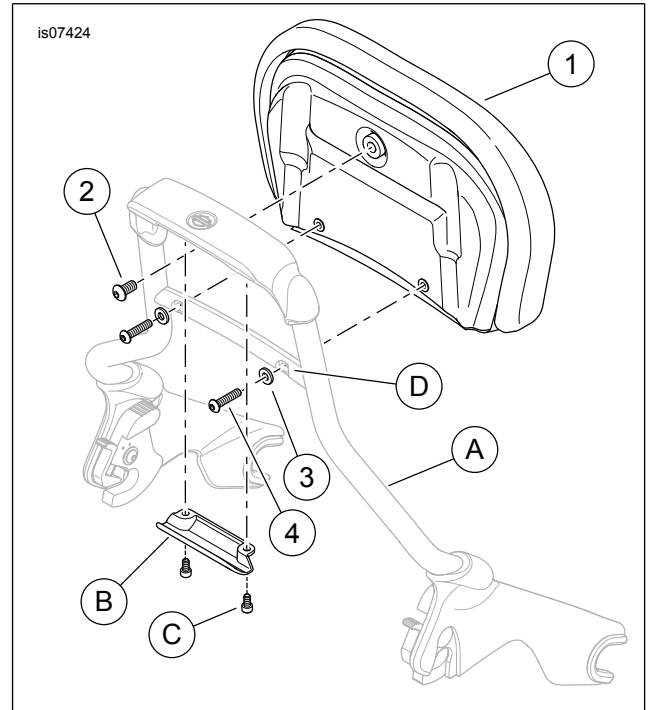

Figure 1. Service Parts, Air Wing Backrest Pad Kit
See Figure 1 and Table 1.
1. See Figure 1. Remove the two screws (C) holding the chrome filler plate (B) or optional center light to the sissy bar upright (A).